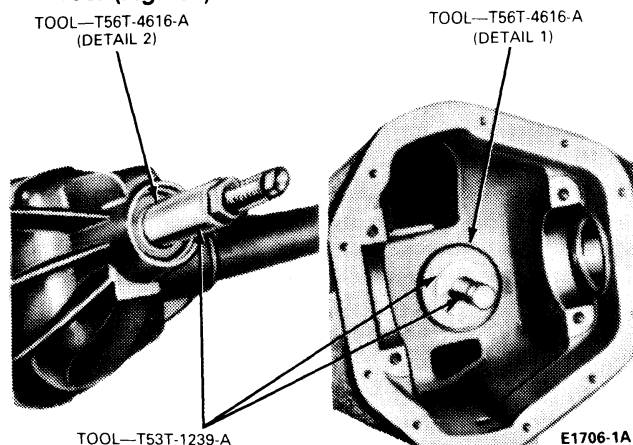

FIG. 24 Installing Pinion Bearing Cup—Models 60 and 70
1. Drive the inner pinion bearing cup into the inside of the carrier housing with the appropriate driver tool (Fig. 24).
2. Turn the housing over and install the outer pinion bearing cups into the carrier with the appropriate tool (Fig. 24).